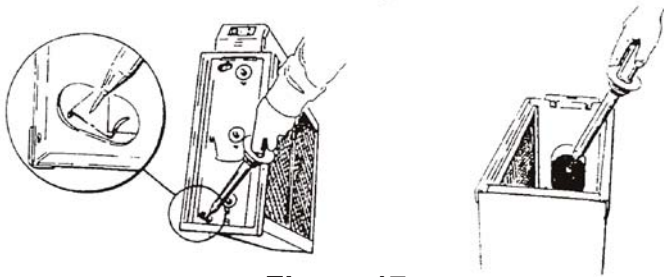

Figure 17
8. If no voltage is present, remove both cells and measure the power supply output. While depressing the safety switch, touch the end of the high voltage probe to either the front or rear contact board assembly (Figure 17). The meter should read 6.2 kVDC \pm 0.2 kVDC.